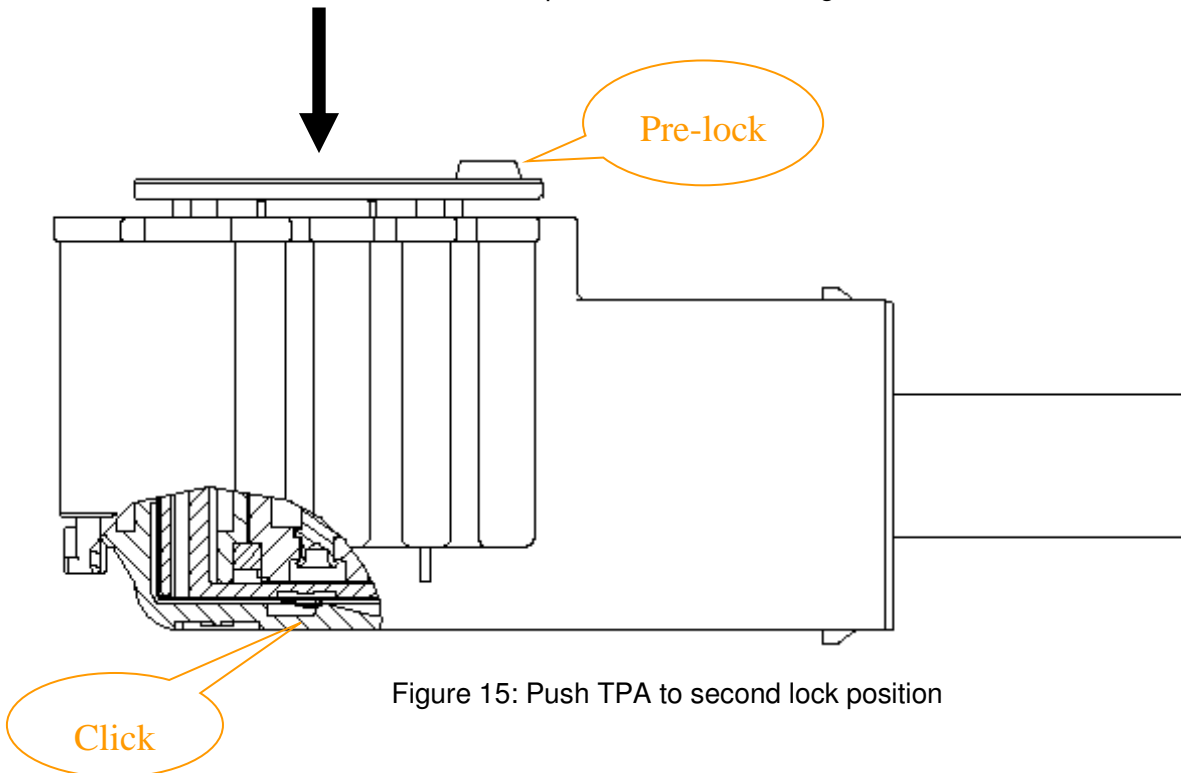

Figure 15: Push TPA to second lock position
B. Push TPA until it is in second lock position as shown in figure 15.